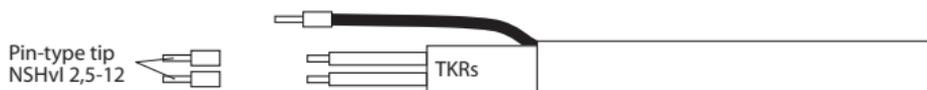

Figure 7
5.1.7. Put on the ends of the buswires the pin tips and crimp them by the hand crimping tool, then hold the heating tape with the connection termination installed up to complete hardening of the sealant (appr. 12 hours) (see Figure 7).